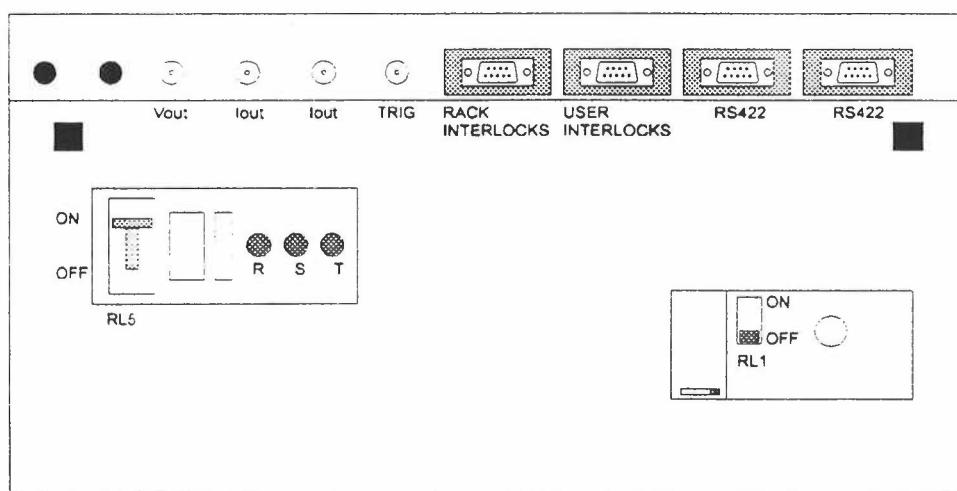

Fig. 6.1.3-1 The AC mains input module with cover.
2. Remove the AC mains input module cover: Turn the two black plastic screws on top of the panel 90° in any direction and remove the cover. The module's pc-board is placed just behind the connectors at the top of Fig. 6.1.3-1 with its component side down. Fig. 6.4.3-1 shows the positions of the connectors on the pc-board.